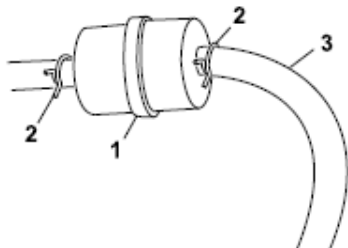

Figure 25
2. Squeeze the ends of the hose clamps together and slide away from the fuel filter (Figure 25).
3. Place a drain pan under the fuel lines to catch any leaks, then remove the filter from the fuel lines (Figure 25).